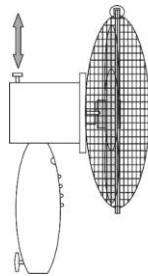

Fig 5a
The fan is equipped with a rotational mechanism. Automatic rotation of the fan round its vertical axis is switched on by the button on the drive unit housing (1). See Fig. 5A.